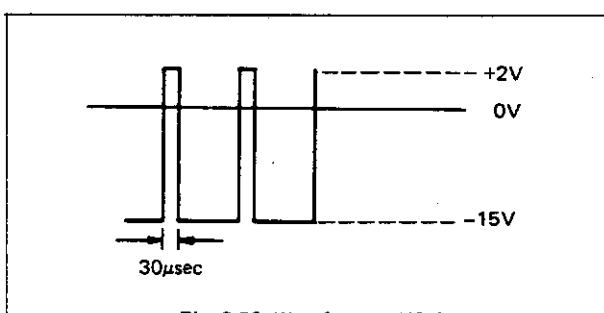

Fig. 6-20 Waveform at H2-4
- (8) Check that the blanking signal (Z' OUT.) as shown in Fig. 6-20 is observed at H2-4.